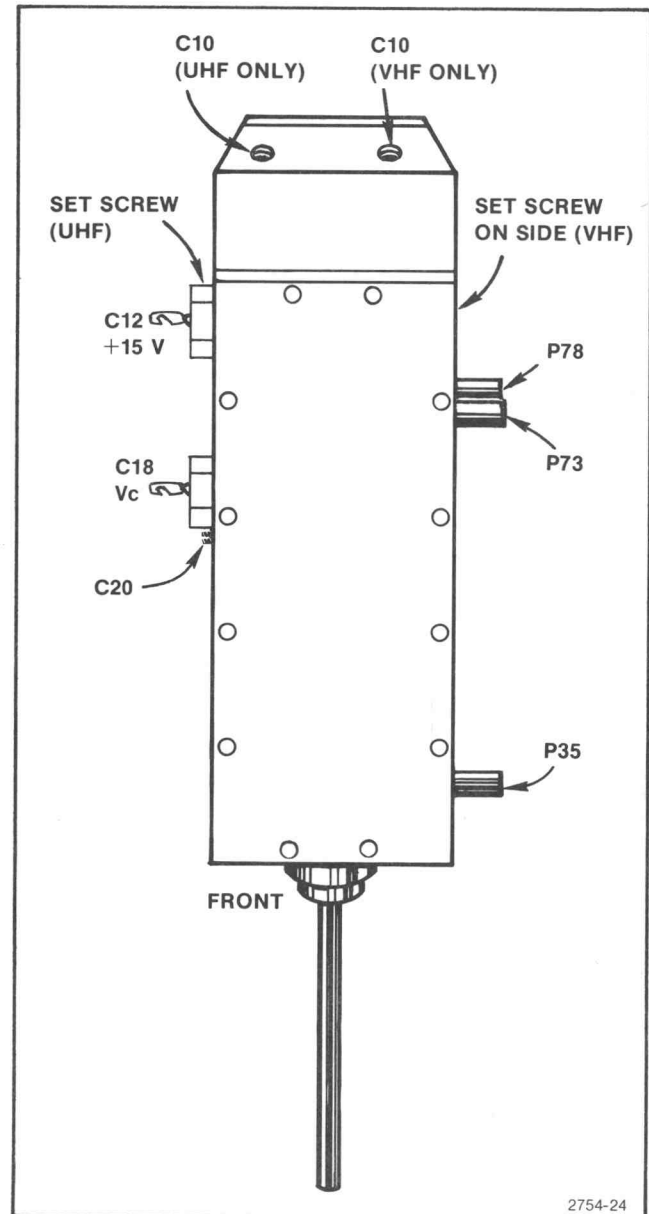

Fig. 4-13. 1st LO Tracking Adjustment Locations.
1. Adjust 1st LO Tracking (C10 and C20 on A8 1st LO, see Fig. 4-13) 4-21
1. Adjust 1st LO Tracking (C10 and C20 on A8 1st LO, see Fig. 4-13)
The 1st LO assembly is factory adjusted to track the oscillator with the frequency-indicating tape. If adjustment of the 1st LO assembly becomes necessary, refer to Fig. 4-13 and perform the following procedure.
- a. The adjustment for the low number channels (C10) is located at the back of the 1st LO assembly, and can be reached by removing the shield cover over the 2nd LO and 2nd Mixer boards. See Fig. 8-1. There is an access hole through the chassis for this adjustment. Also, there is a setscrew on the side of the assembly that has to be loosened before the adjustment can be made. See Fig. 4-13.